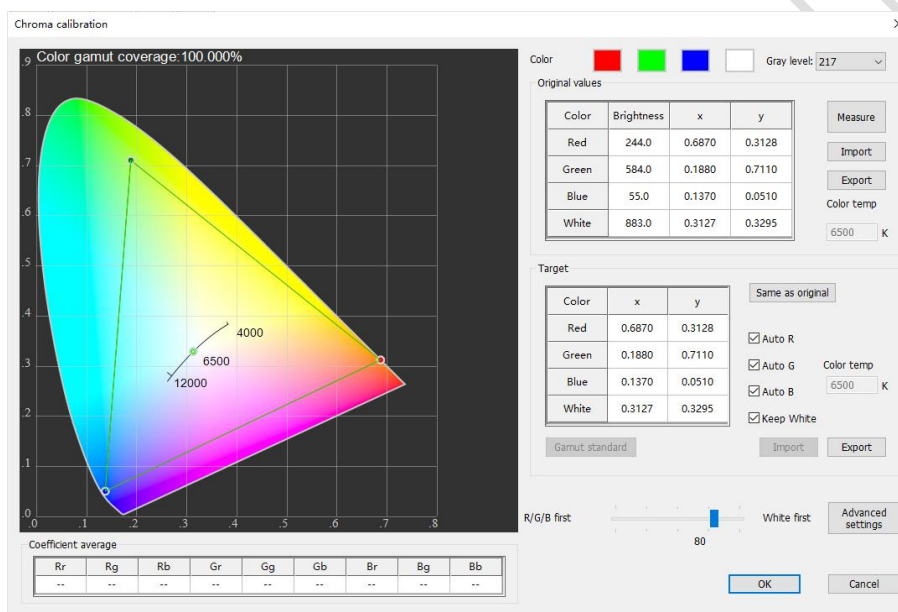

Fig.3-64 Target color temperature settings in brightness calibration mode
- In brightness calibration mode, you can select a target color for settings. See Figure 3-64.